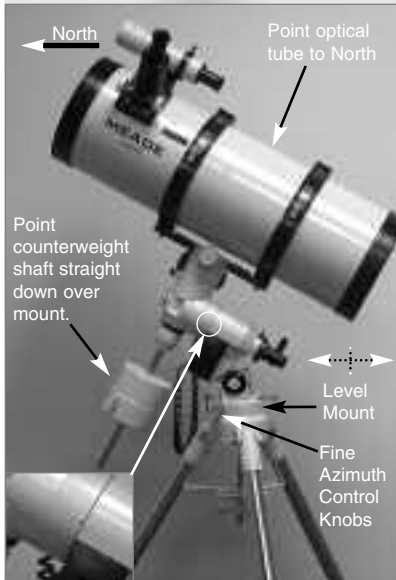

Fig. 16a: The polar home position, side view.
2. Unlock the R.A. Lock (**33, Fig. 1d**). Rotate the Optical Tube Assembly until the counterweight shaft is pointing straight down over the mount. See **Figs. 16a** and **16b**.